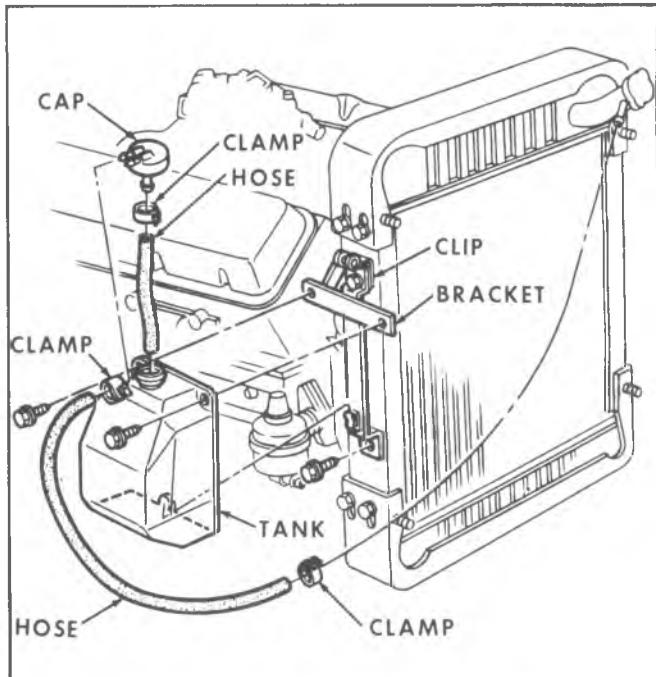

Fig. 6—Coolant Recovery System—P30 (32)
Refer to Figure 6 for coolant recovery system on P30 (32) chassis.